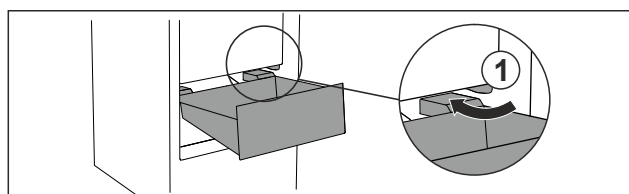

Fig. 81
- Guide drawer in at an angle around the stoppers Fig. 81 (1).